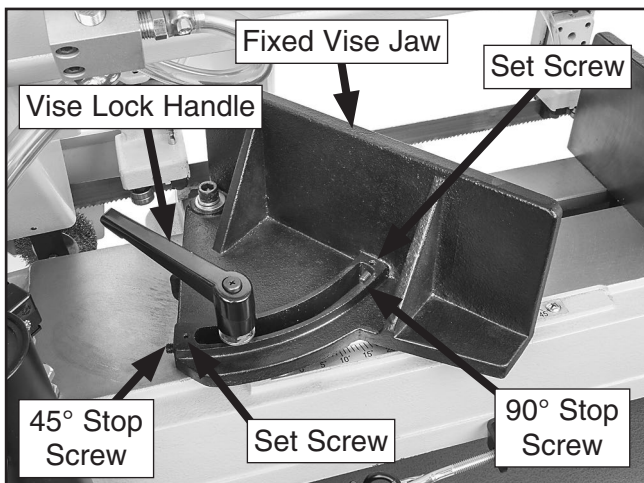

Figure 37. Fixed vise positive stop adjustments.
- If angle *is not* 90°, loosen fixed vise lock handle and set screw above 90° stop screw shown in **Figure 37**, then adjust stop screw as needed (see **Figure 37**).
- If angle *is not* at 45°, loosen lock handle and set screw above 45° stop screw (see **Figure 37**), and then adjust stop screw as needed.